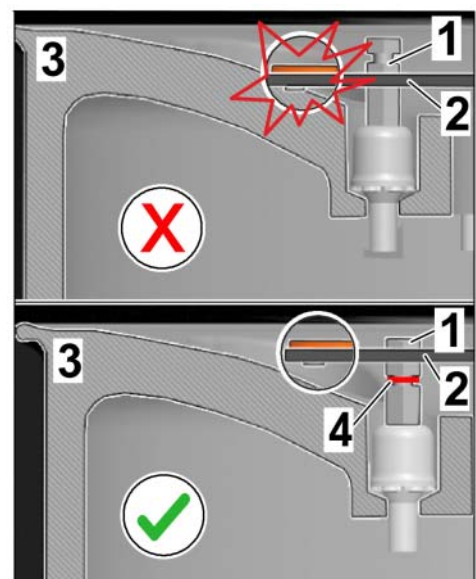

Figure 8
- Do **NOT** remove the red ring (⇒ *Figure 8*, item 4) in the groove on the spacer bolt!